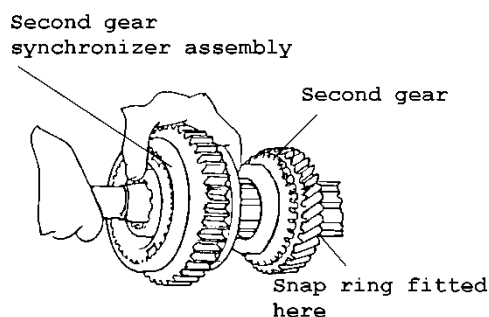

FIG. 13
- Remove the second speed synchronizer snap ring and slide the second speed synchronizer assembly off the shaft and strip it. Refer to Fig. 13 **on the next page**.